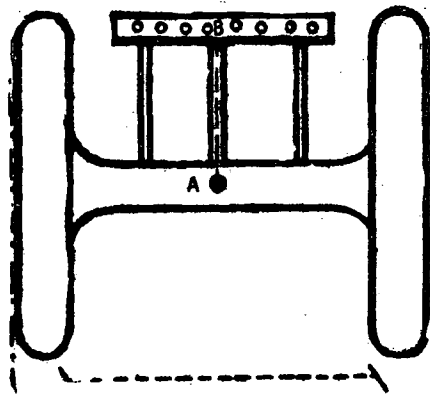

Fig. 1 - Centre line of tractor
*The line of pull of the tractor is determined by two points: the middle point of the rear axle (A) and the mid-point of the drawbar (B) (Fig. 1).*